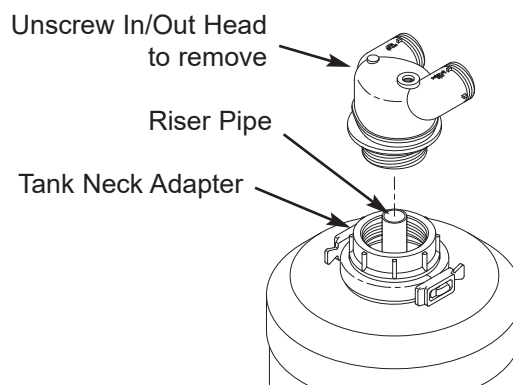

FIG. 9
4. Holding the tank neck adapter with a strap wrench, unscrew the in/out head from the tank neck adapter (See Fig. 9). Once the in/out head is completely unscrewed, check to see whether the riser pipe (See Fig. 9) is still inserted in the in/out head. Remove it by lifting the in/out head enough to grasp the riser pipe and pull it free from the head.
NOTE: The riser pipe (See Fig. 9) may have been pulled up from the bottom of the mineral tank. If this has happened, the in/out head may not engage the threads of the neck adapter. To correct this, apply air or water pressure to the riser pipe. This will move the media at the bottom of the tank, allowing the riser pipe to be lowered to the bottom of the mineral tank.